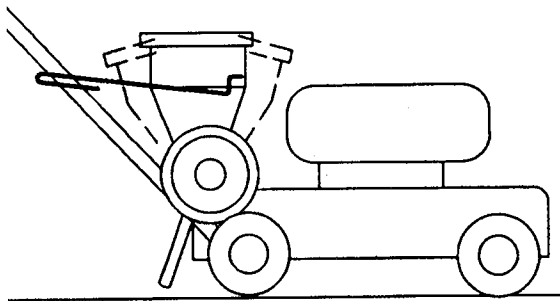

Figure 80
7. Adjust the hopper so it is level and tighten the handle knob securely to lock the hopper in place (Fig. 80).